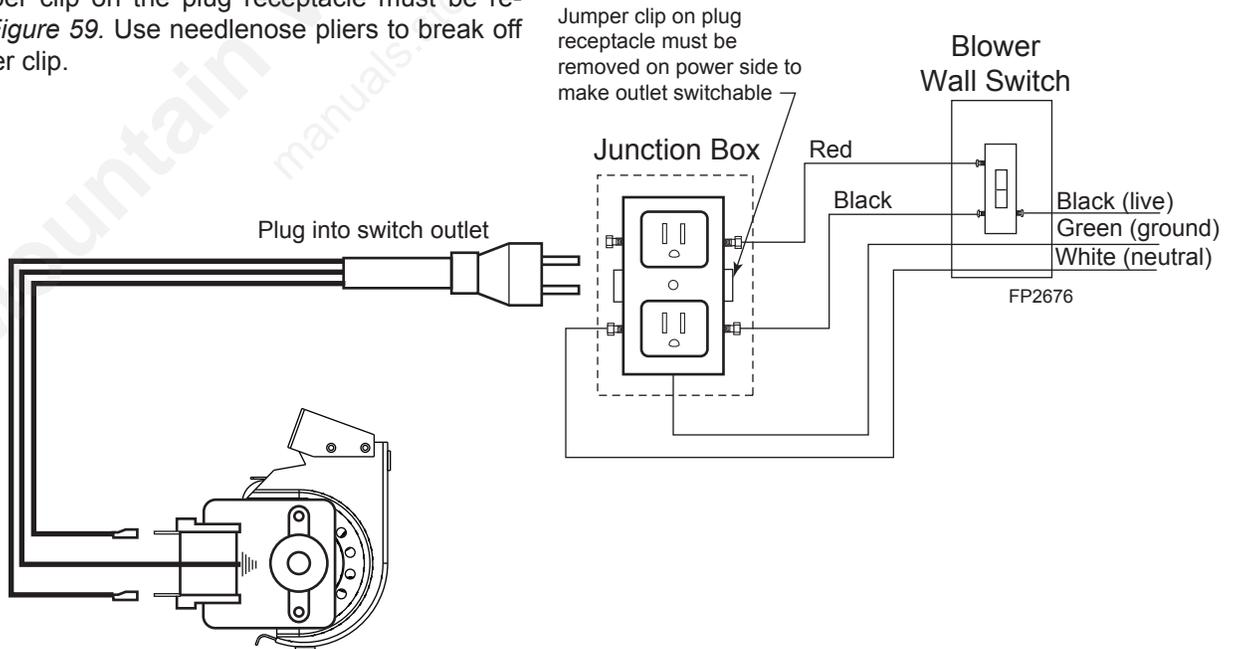

Figure 59 - FK-12 Blower wiring Diagram
3. The jumper clip on the plug receptacle must be removed. *Figure 59.* Use needlenose pliers to break off the jumper clip.